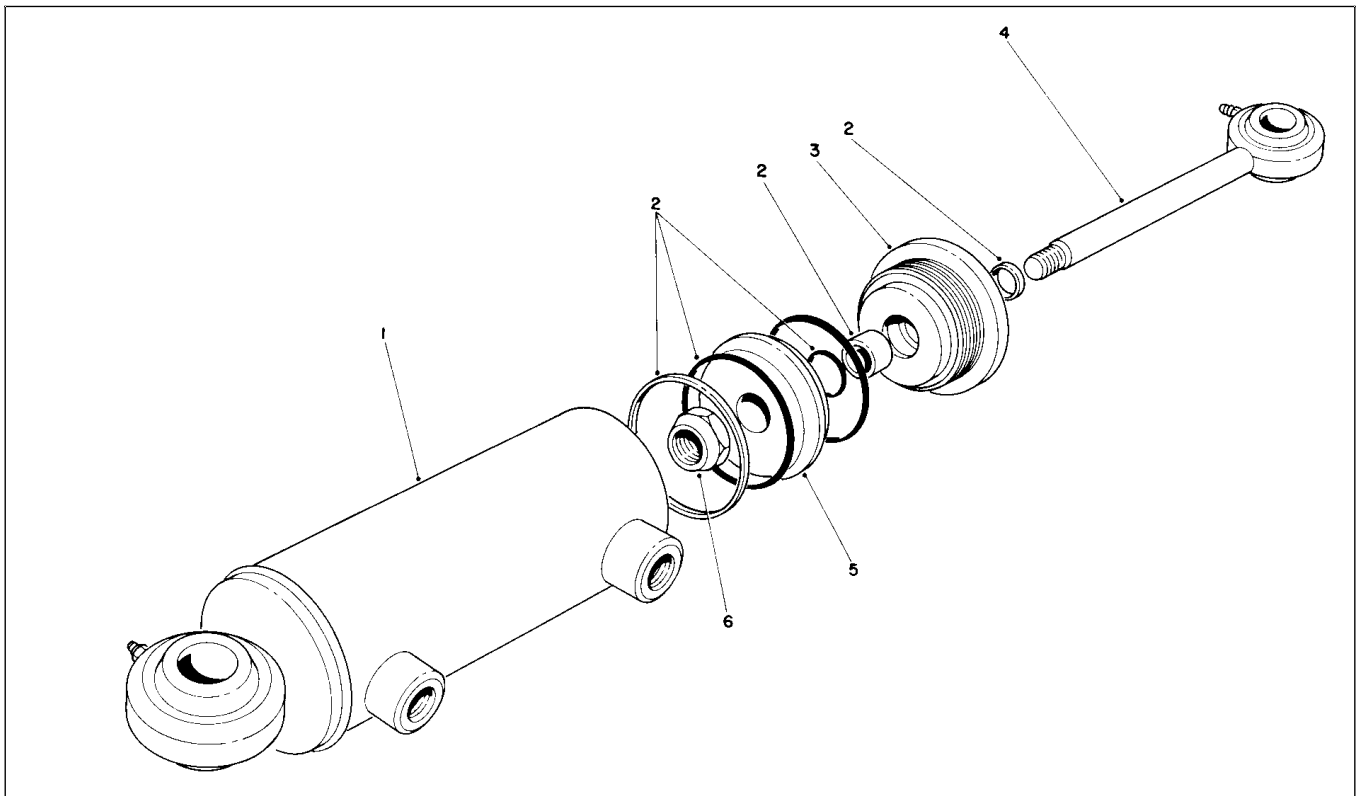

Figure 21
4. Use a spanner wrench to unscrew (counterclockwise) head (Fig. 21, Item 2) from barrel (Item 1).